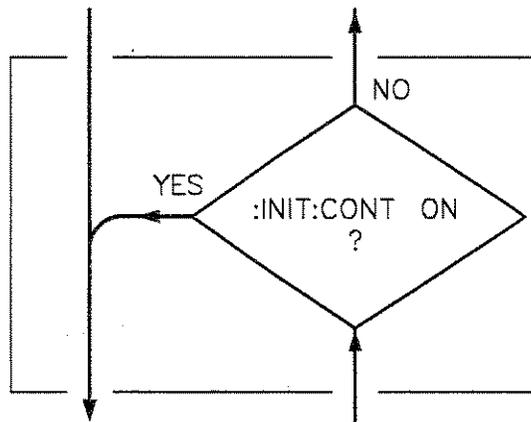

**Figure 1-36. Inside the Idle State**
**Inside the Idle State.** Figure 1-36 illustrates the operation of the *idle* state.